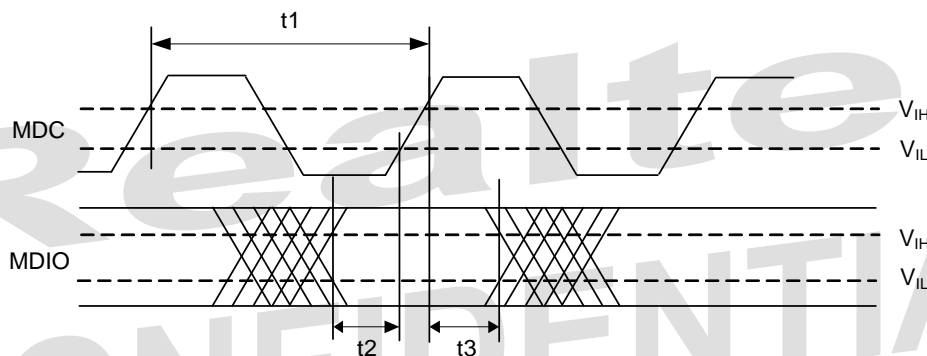

Figure 17. MDIO Sourced by Master (MAC)
- The timing characteristics  $t_1$ ,  $t_2$ , and  $t_3$  (Figure 17) of the Master (MAC) are provided by the Master when the Master sources the MDIO signal (Write command)